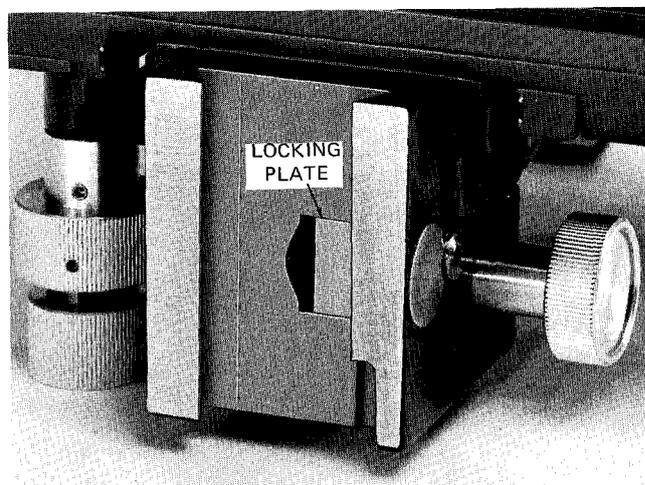

Figure 13. Rear View of Stage Assembly
- (b) Be sure the locking plate will not interfere. (Figure 13)